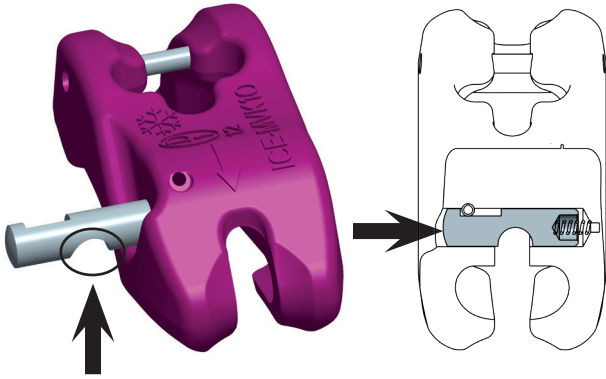

Fig.35
6. Push a new securing bolt into the bore (Fig. 35).
- *Align the securing bolt in such a way that the rounded recess is pointing downwards (fig. 35). Only then can the clamping pin to secure the securing bolt be inserted into the appropriate groove using a hammer.*